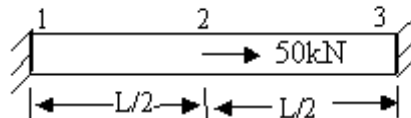

Figure 12:
- (b) Calculate the displacement at node 2 of a fixed beam, subjected to an axial load of 50kN at node 2 by Rayleigh-Ritz method. Take $E = 200 \text{ GPa}$ and $A = 1000 \text{ mm}^2$. Shown in Figure 12. [6+10]